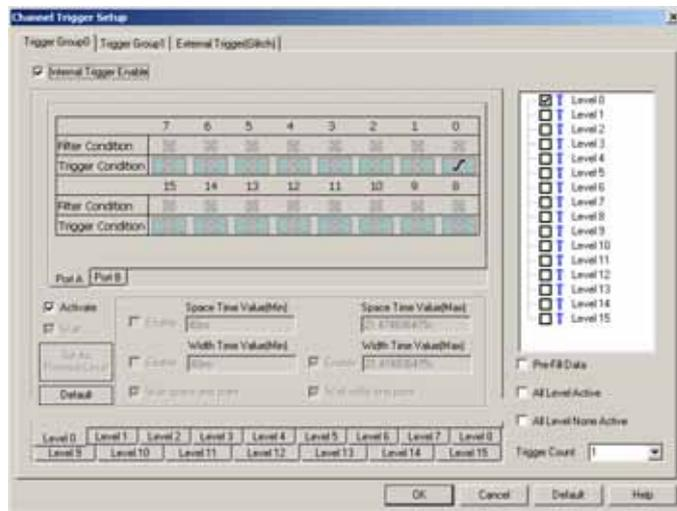

Fig4-20 – Channel Trigger Setup
**Step 1.** Click  icon or click Channel **Trigger Setup** from the **Trigger** on the Menu Bar. The dialog box will appear as shown in Fig 4-20.